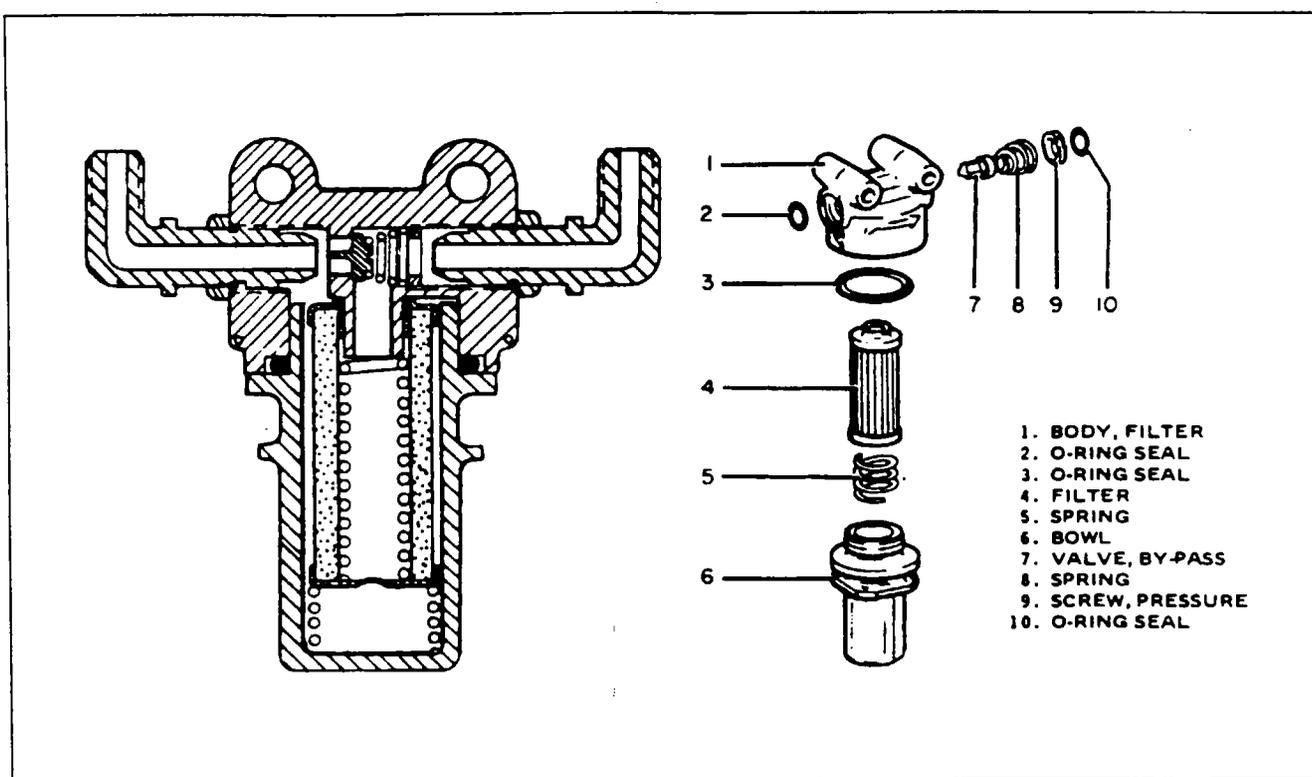

Figure 29-14. Hydraulic Filter
**REPLACEMENT OF FILTER ELEMENTS. (Refer to Figure 29-14.)**